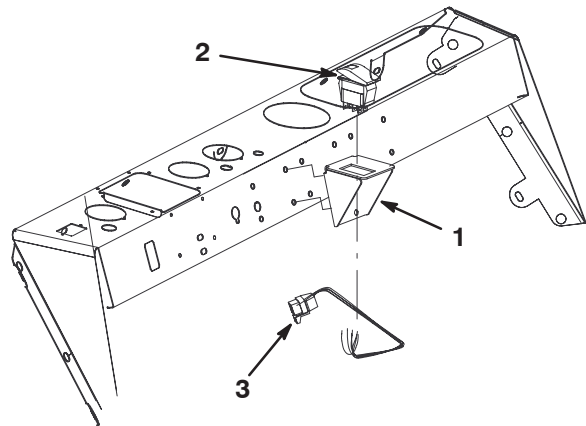

Figure 19
60. Remove the (2) bolts and nuts securing the center of the dash panel to the support channel (Fig. 19).
61. Mount the switch bracket to the dash and the support channel with the (2) bolts and nuts previously removed (Fig. 19).
62. Insert the switch into the bracket (Fig. 19).